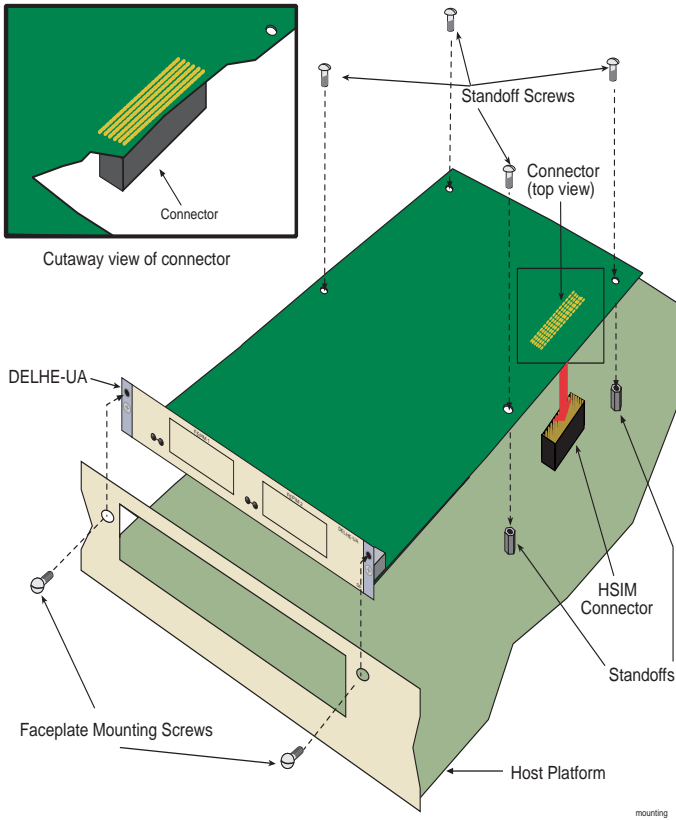

Figure 2-4 Installing the DELHE-UA
6. Refer to Figure 2-4 and place the DELHE-UA behind the module faceplate.